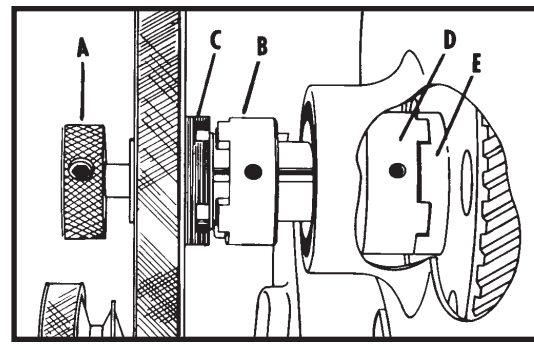

Fig. 58
When using the machine for cutting metal (40, 60, 85, 115, 160, 220, and 335 SFM), push the shifter knob (A) Fig. 58 all the way in, disengaging the clutch (B) from the hub (C) of the pulley. An additional clutch (D) is located inside the band saw. It must be engaged with the hub (E) of the gear that transmits power through the gear box. When pushing in on the shifter knob (A) Fig. 58, rotate the lower wheel of the band saw to feel when the engagement occurs.